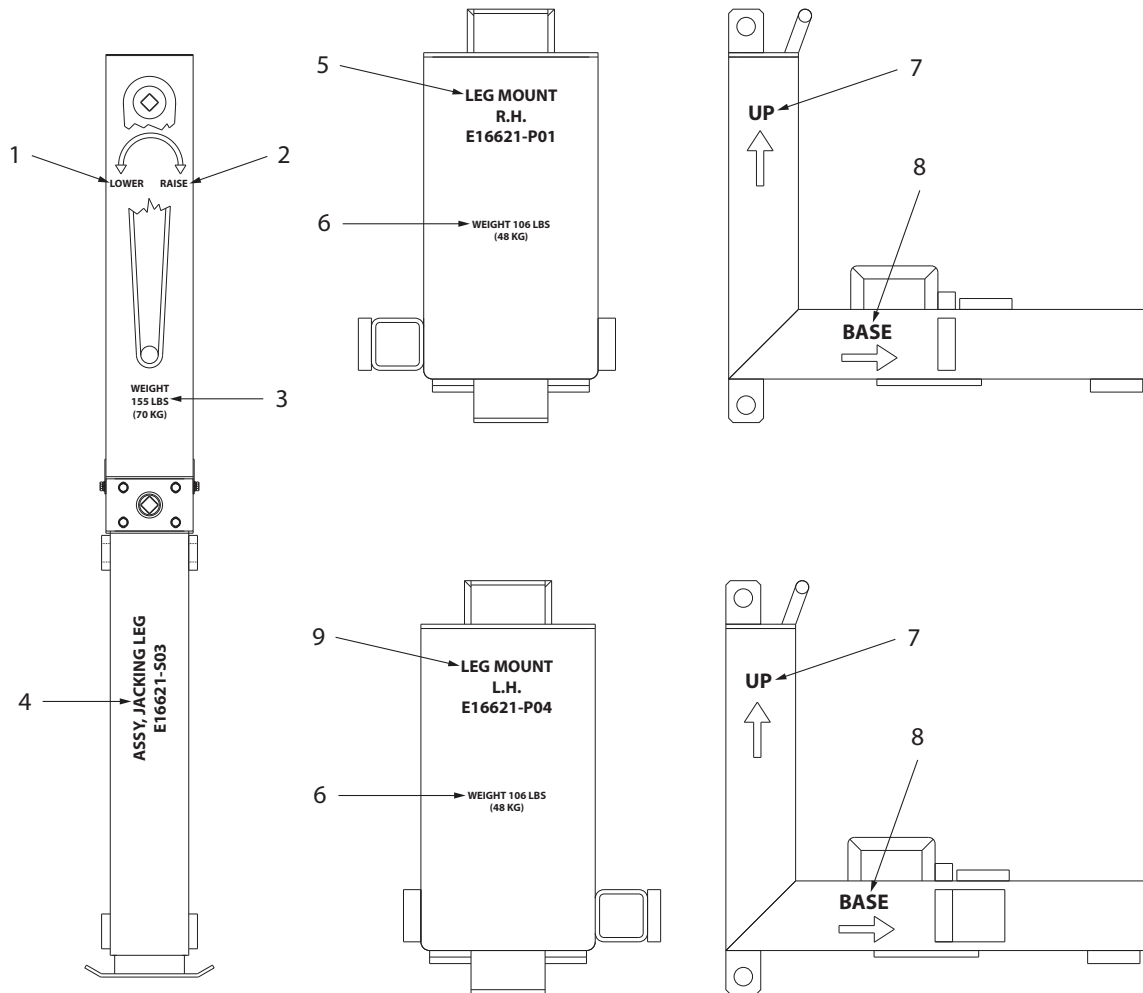

Figure 9.2.5-1
9.2.5 Jacking Leg/Leg Mount Stencils (Figures 9.2.5-1)